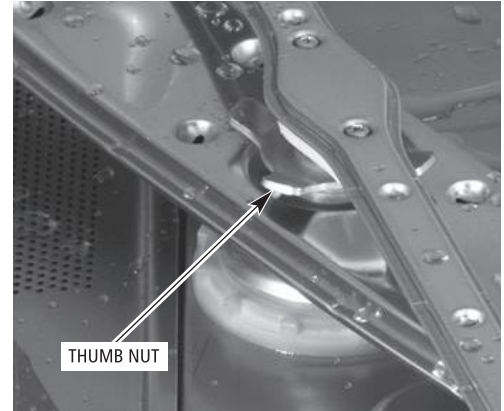

Figure 8
2. Remove the **lower** rinse arm by unscrewing the thumb nut (*Figure 8*). **Remove** the lower wash arm by pulling the arm off the shaft. **Remove** the upper rinse and wash arms in the same manner. **Remove** the coarse and fine strainers (see *Figures 5 and 6*). **Thoroughly** clean these items in a sink. Remove debris from wash/rinse arm nozzles.